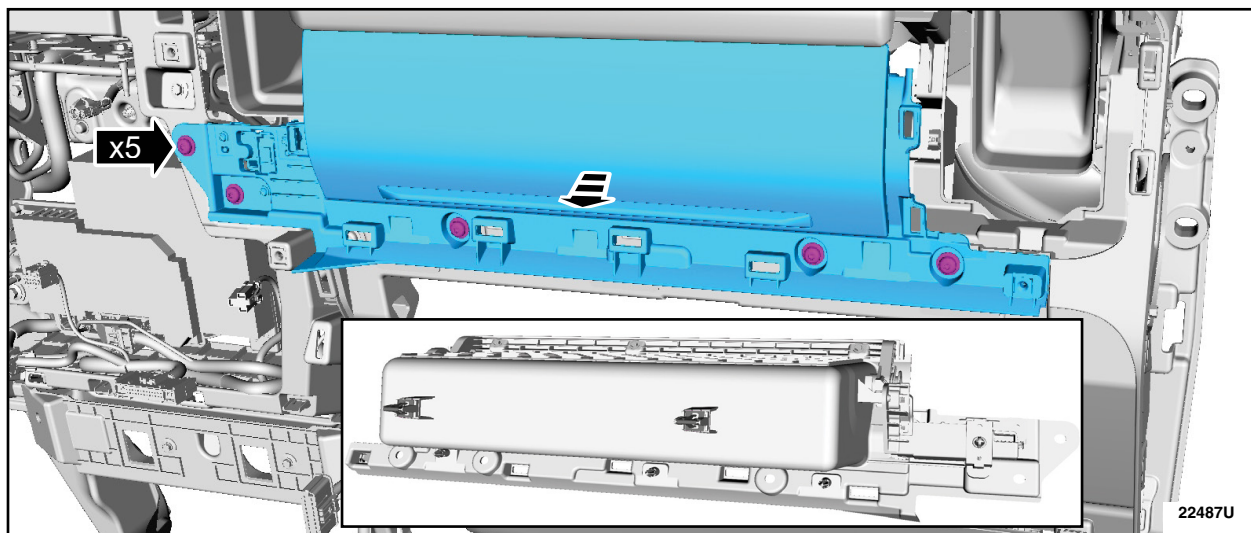

**FIGURE 18**
19. Remove the bolt and the RH register. See Figure 18.